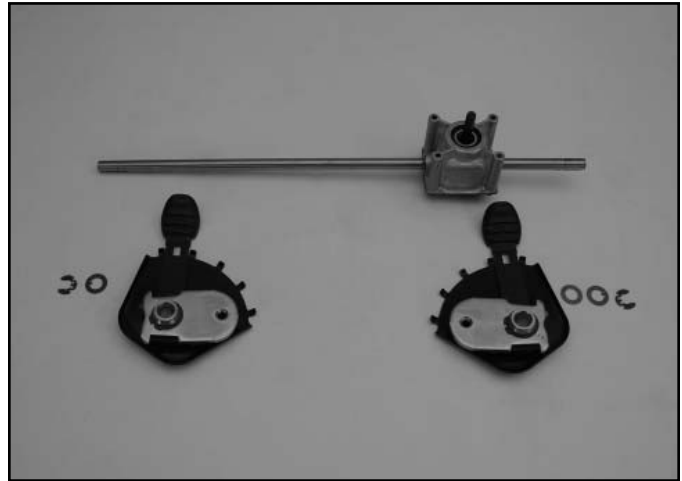

Fig 047
10. Remove the klip ring and thrust washer from each end of the axle (the left side has 2 thrust washers, the right side, one). The bearing, bearing retainer, HOC plate, spring arm and pivot arm all come off as one unit (Fig. 047).